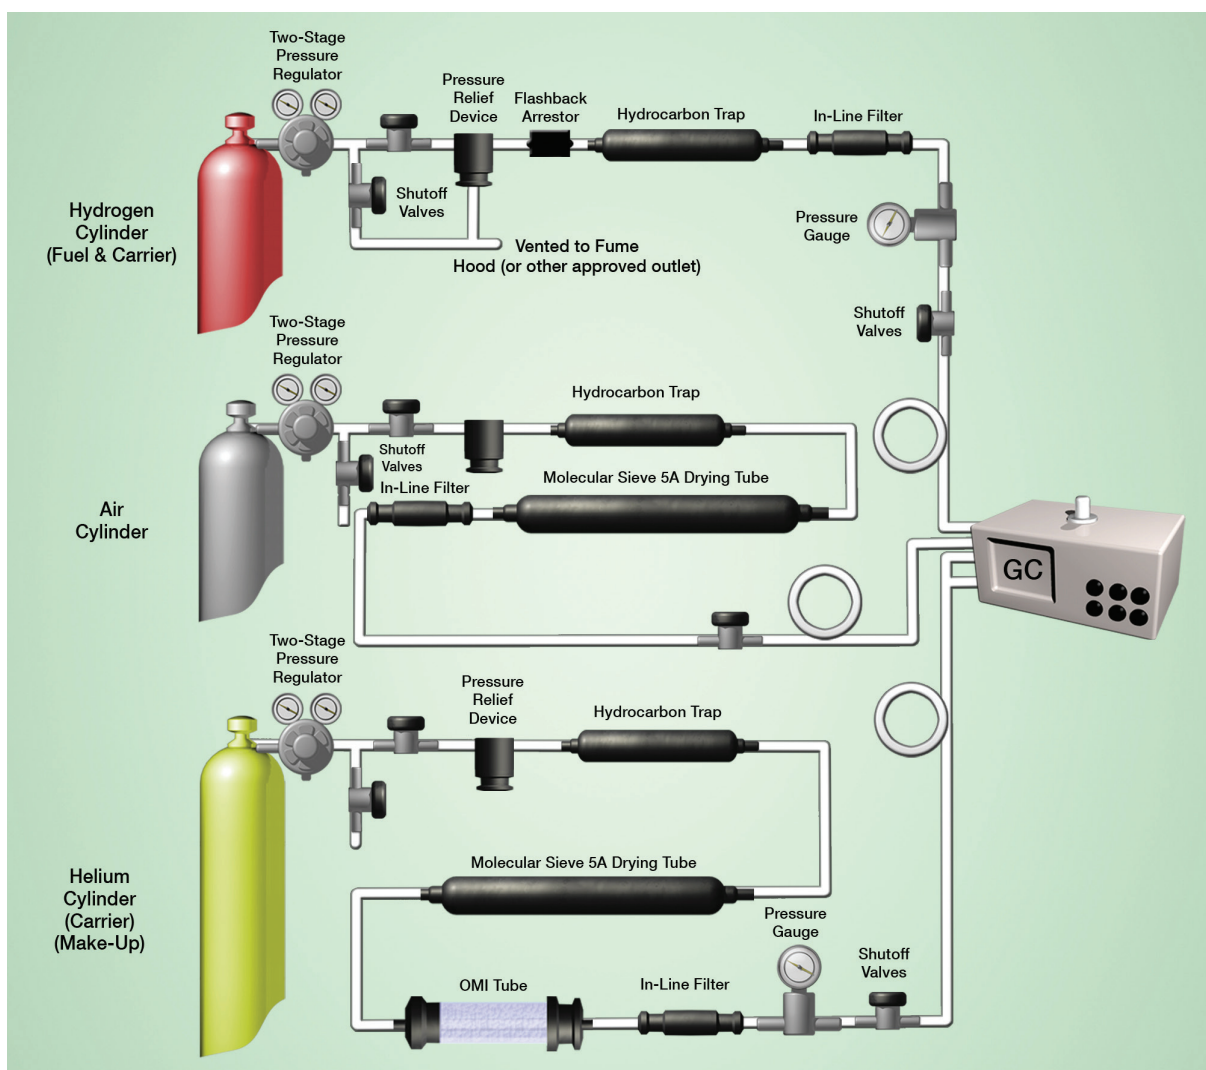

Figure 3: Standard Configuration for a Single GC System: Gas Delivered from Cylinders
- 2 Reduce tubing line lengths as much as possible. (See Figure 3).